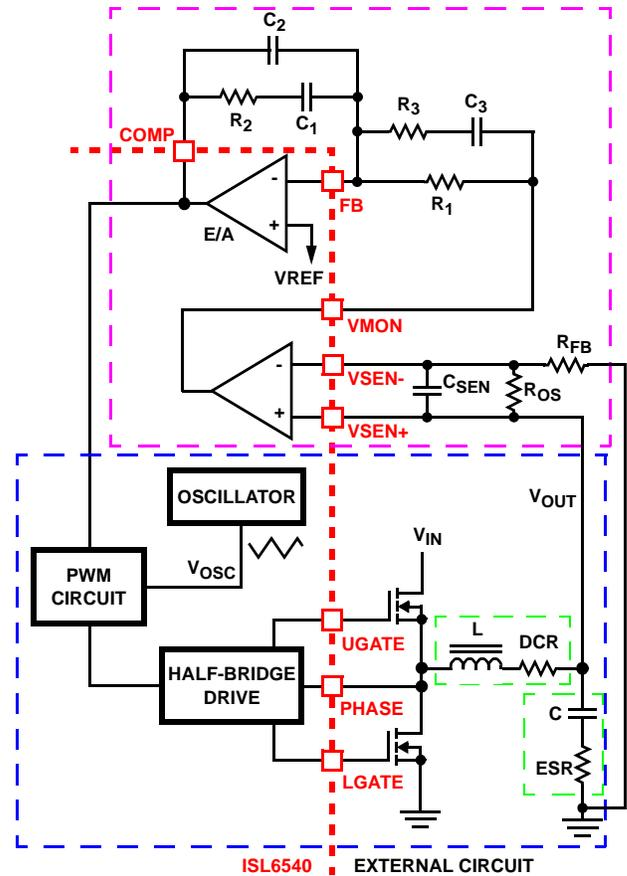

FIGURE 10. VOLTAGE-MODE BUCK CONVERTER COMPENSATION DESIGN
Figure 10 highlights the voltage-mode control loop for a synchronous-rectified buck converter, when using an internal differential remote sense amplifier. The output voltage (V_{OUT}) is regulated to the reference voltage, V_{REF} , level. The error amplifier output (COMP pin voltage) is compared with the oscillator (OSC) triangle wave to provide a pulse-width modulated wave with an amplitude of V_{IN} at the PHASE node. The PWM wave is smoothed by the output filter (L and C). The output filter capacitor bank's equivalent series resistance is represented by the series resistor ESR.
1. Select a value for R_1 (1kΩ to 10kΩ, typically). Calculate value for R_2 for desired converter bandwidth (F_0). If setting the output voltage to be equal to the reference set voltage as shown in Figure 22, the design procedure can be followed as presented. However, when setting the output voltage via a resistor divider placed at the input of the differential amplifier (as shown in Figure 10), in order to compensate for the attenuation introduced by the resistor divider, the below obtained R_2 value needs be multiplied by a factor of $(R_{OS}+R_{FB})/R_{OS}$. The remainder of the calculations remain unchanged, as long as the compensated R_2 value is used.
A small capacitor, C_{SEN} in Figure 10, can be added to filter out noise, typically C_{SEN} is chosen so the corresponding time constant does not reduce the overall phase margin of the design, typically this is 2x to 10x switching frequency of the regulator. As the ISL6540 supports 100% duty cycle, d_{MAX} equals 1. The ISL6540 also uses feedforward compensation, as such V_{OSC} is equal to 0.16 multiplied by the voltage at the VFF pin. When tying VFF to V_{IN} the above equation simplifies to: